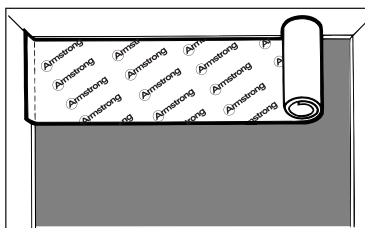

Fig. 4
4. Roll out Armstrong Quiet Comfort or Quiet Comfort Premium Underlayment or Armstrong Moisture Barrier Sheeting along the starting wall, and cut to length (Fig. 4). Kitchen and bathroom installations require folding the underlayment up the wall 2" (5 cm). Place additional sections with butt seams as the installation progresses.